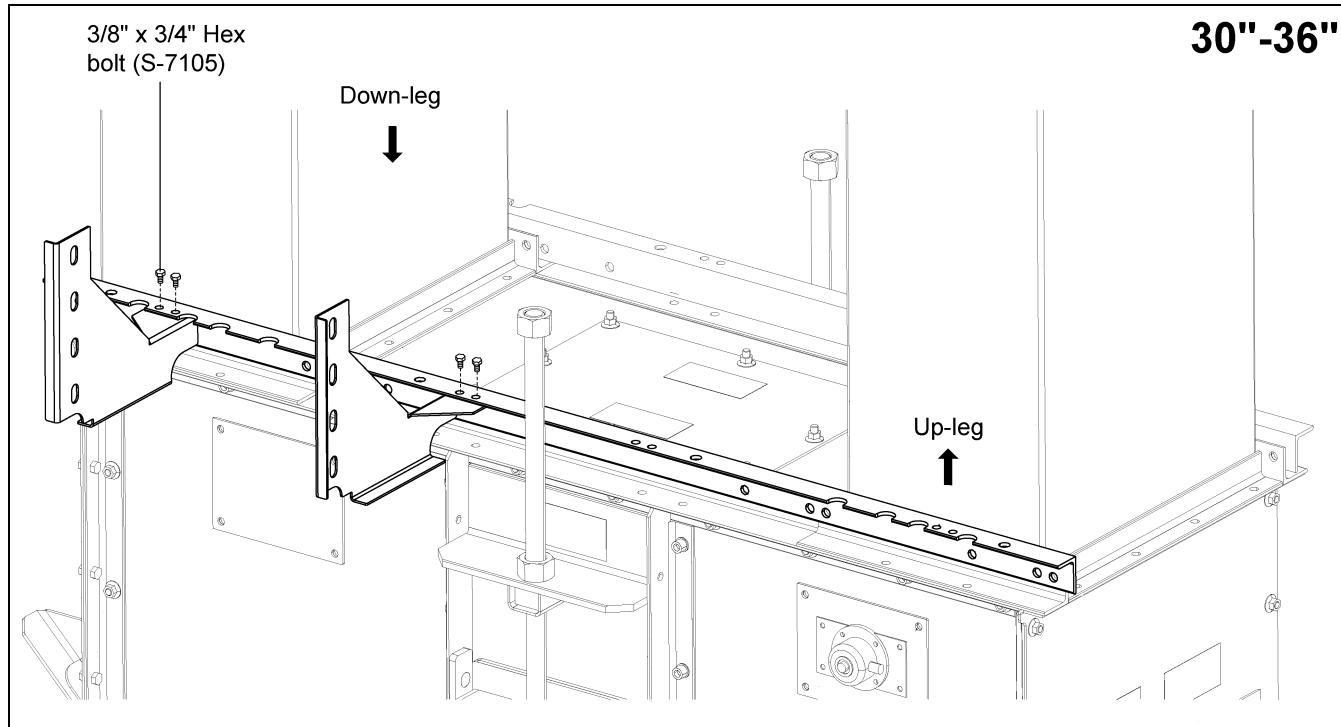

Figure 4P 30"-36" Boot Bracket Down-Leg
- e. **If using the 30"-36" down-leg:** Use 3/8" x 3/4" hex bolts to attach the ladder support brackets to the boot tie angle using the holes indicated in Figure 4P. Note the outer bracket uses the first set of holes on the outside.